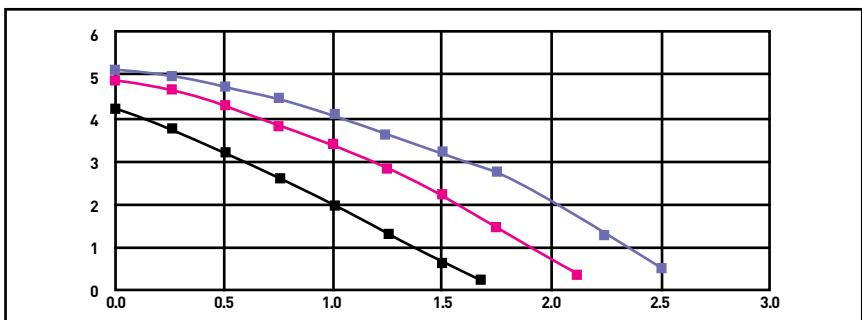

Figure 1.5.4
- The characteristics of the pump on the device is given in Figure 1.5.4.